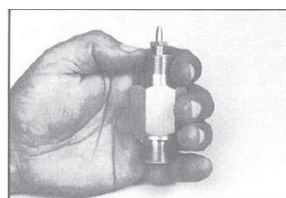

Figure 4:
4. Replace the gland and tighten it finger tight. Remove the dummy stem shown in Figure 4 and replace it with a new innervalue and stem. Tighten the packing gland and test the seal at final assembly the same as with chevron ring packing.